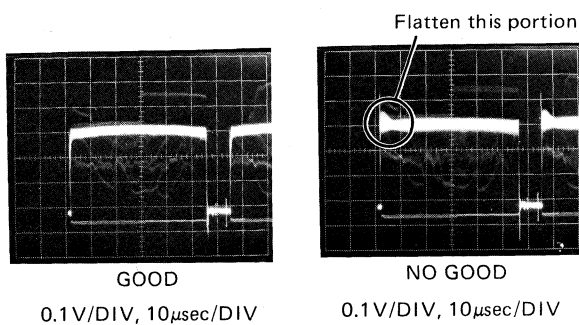

Fig. 4-2-22
- Adjust H.LIN-2 VR3 so that the starting portion of YH signal at YH TP3 is flat. (Fig. 4-2-22)